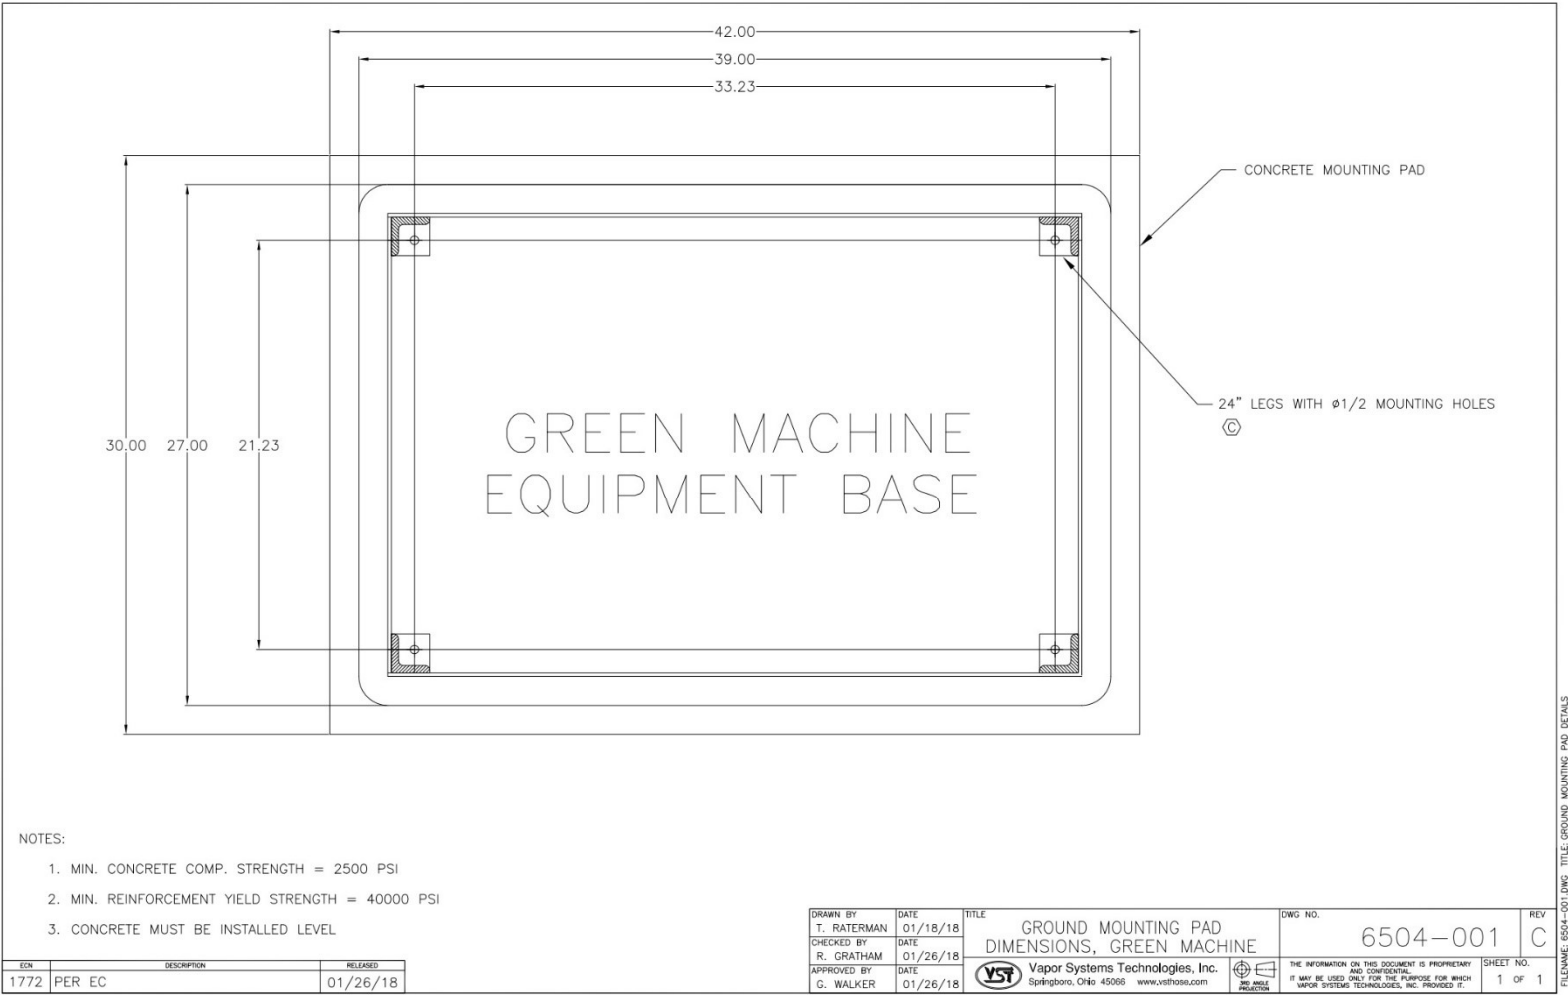

Figure 1-2: Concrete mounting pad dimensions
- **See Figures 1-2 and 1-3**
- After the concrete has properly cured, install the expansion anchor bolts according to the manufacturer's recommendations. **See Figures 1-2 and 1-3.**